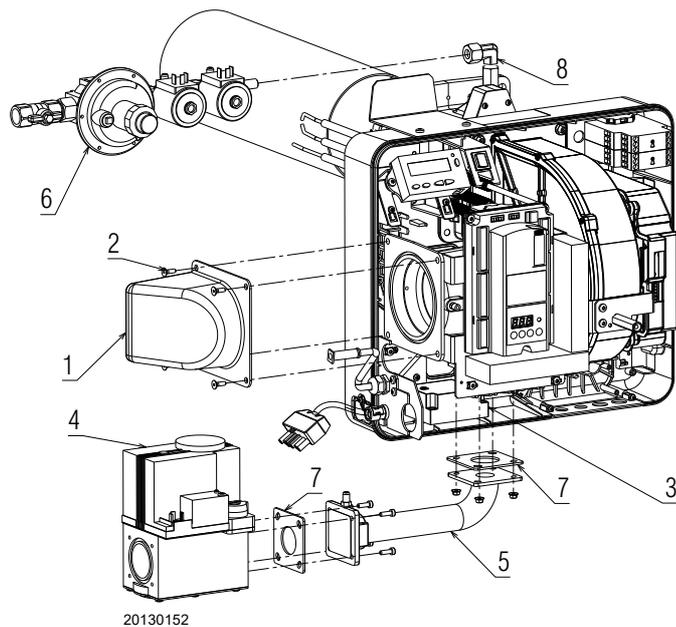

Fig. 18
- connect the high voltage cables to the transformer 3)(Fig. 18), and the ionisation probe lead to the appropriate cable emerging from the control box;
- fix the gas train unit 4)(Fig. 18) and the gas pipe 5) with the screws, nuts and the washers supplied as standard equipment. Interpose the gaskets 7) as in Fig. 18;
- assemble the pilot train supplied as standard 6)(Fig. 18);
- insert the pilot train 6)(Fig. 18) on connector 8) and tighten the nut fully home;
Be aware of the presence of the gasket 7)(Fig. 18) and the gas seal.
Use a suitable sealant and check the general gas seal during operation, in particular with respect to tube 5)(Fig. 18).